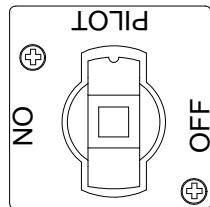

Figure 1
1. Ensure power to the unit is OFF, and then turn the gas valve knob to the OFF position. Wait at least 5 minutes, and then rotate the gas valve knob to the PILOT position (see Figure 1).